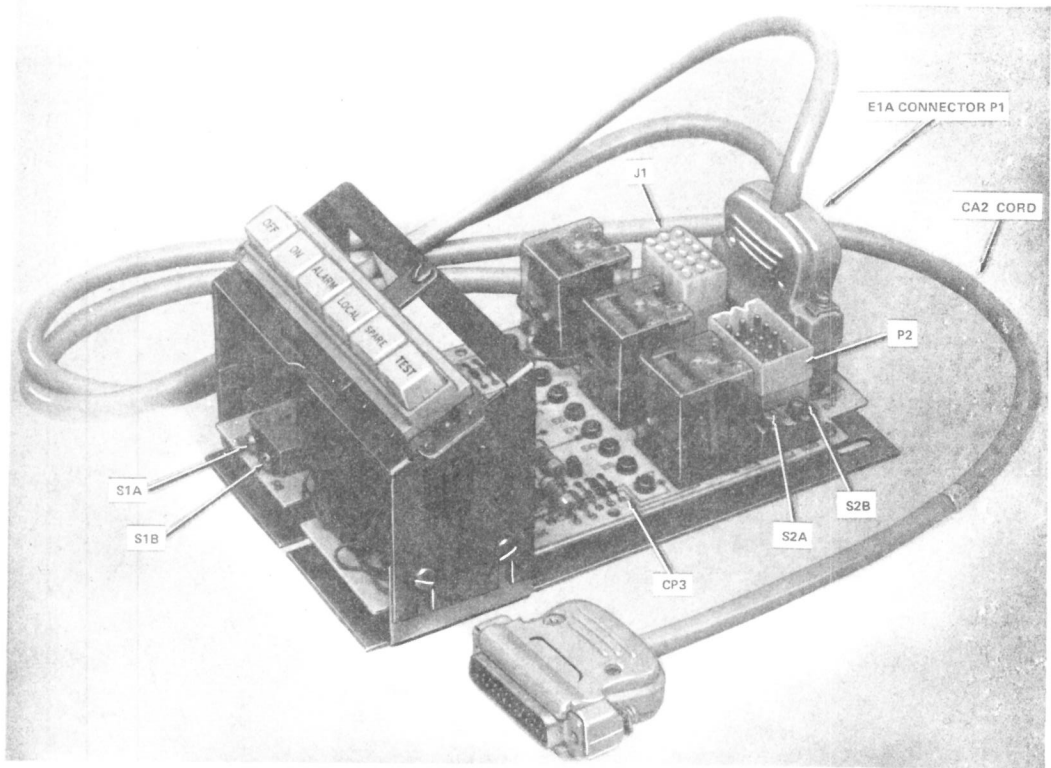
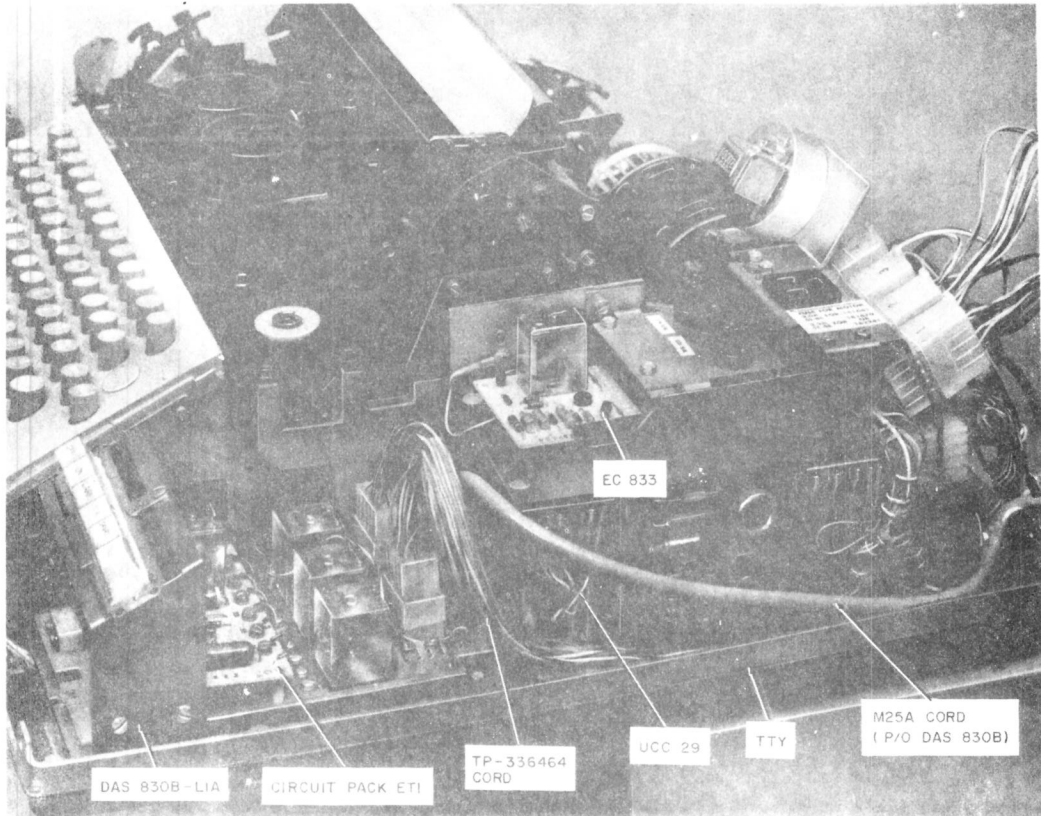

Fig. 6—DAS 830B-L1A
Fig. 7—DAS 830B-L1A Mounted in TTY
**2.07** DAS 830B-L1A (Fig. 6) is a 6-button key unit designed for mounting under the faceplate of the TTY in front of the UCC29 (Fig. 7). The